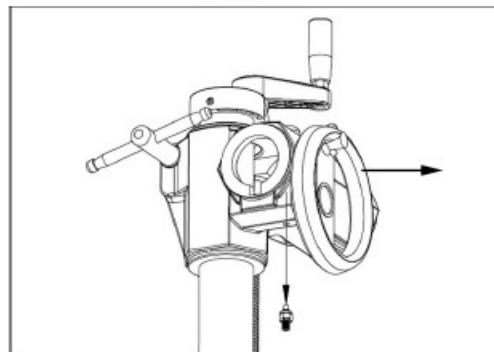

Figure 6
11. Remove the screw from below the bracket, then remove the handwheel (Figure 6).
13. Re-install handwheel, then reinstall screw (Figure 6). Make sure the rack of the overarm meshes properly with the pinion on the handwheel shaft. The over arm can now be moved simply by rotating the handwheel.